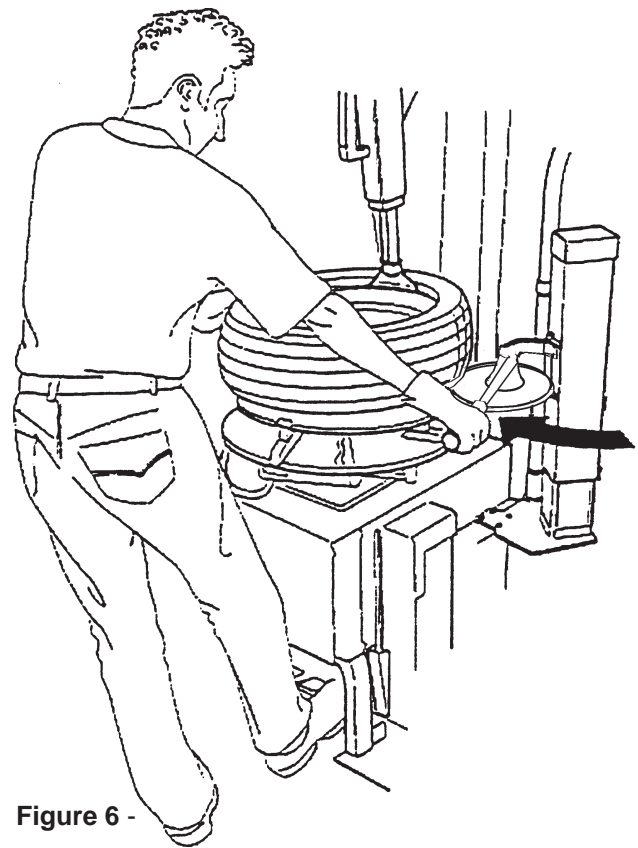

Figure 6 -
**B.** Lower the column, position the lower bead-push device next to the lower rim edge. Hold the handle firmly, press the raise button and at the same time rotate the turntable (Figure 6). This operation allows to loosen the bead if this is stuck and helps lifting the tire.